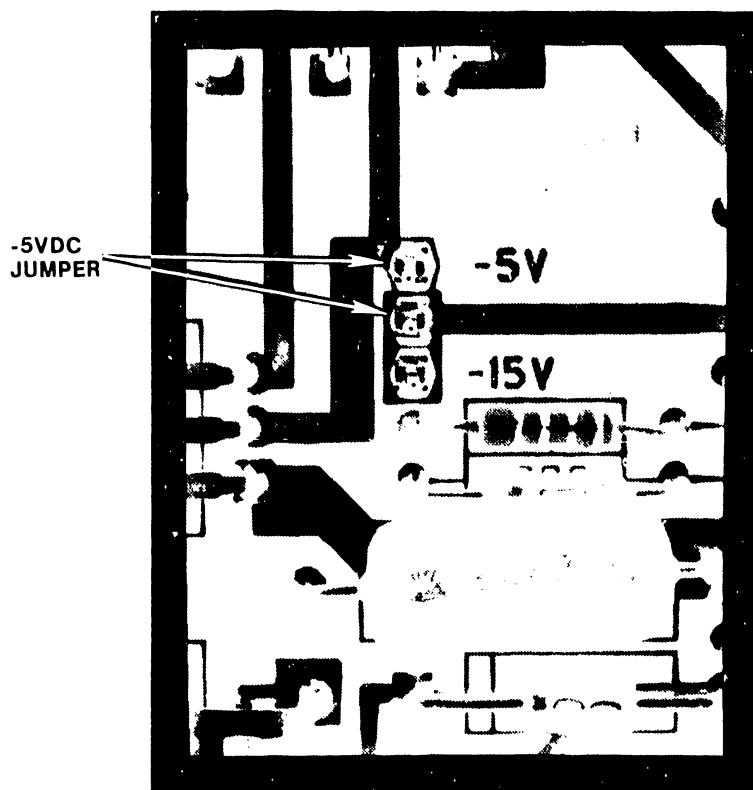

FIGURE 3
4. Interface Voltage Selection - Selects the correct interface voltage. INSTALL this jumper for the -5 Volt dc configuration for Wang systems as shown in figure 3.